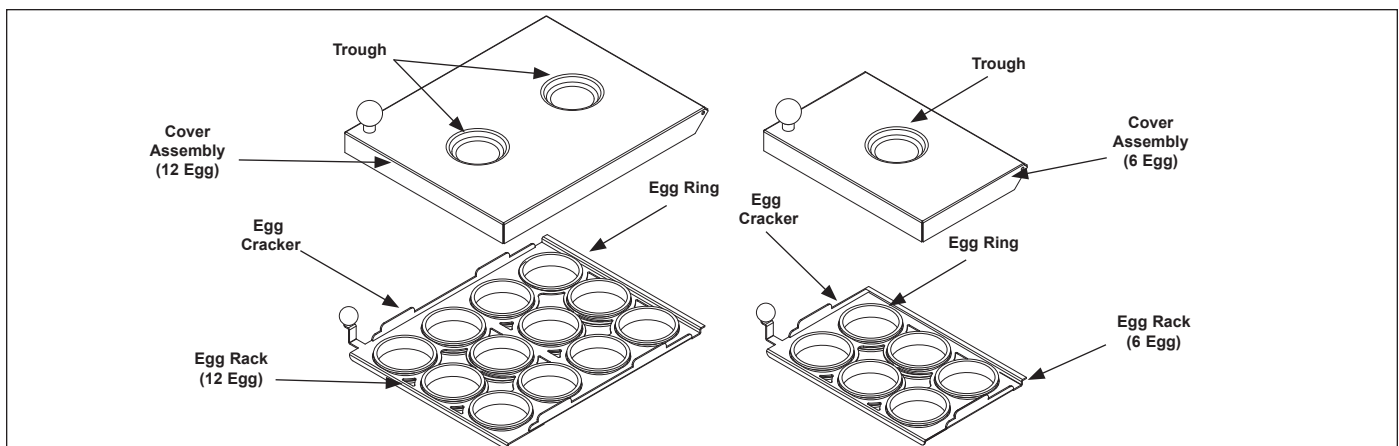

Figure 3. Cover Assembly (12 and 6 Egg)
2. Place Egg Ring into Egg Rack (Figure 3).